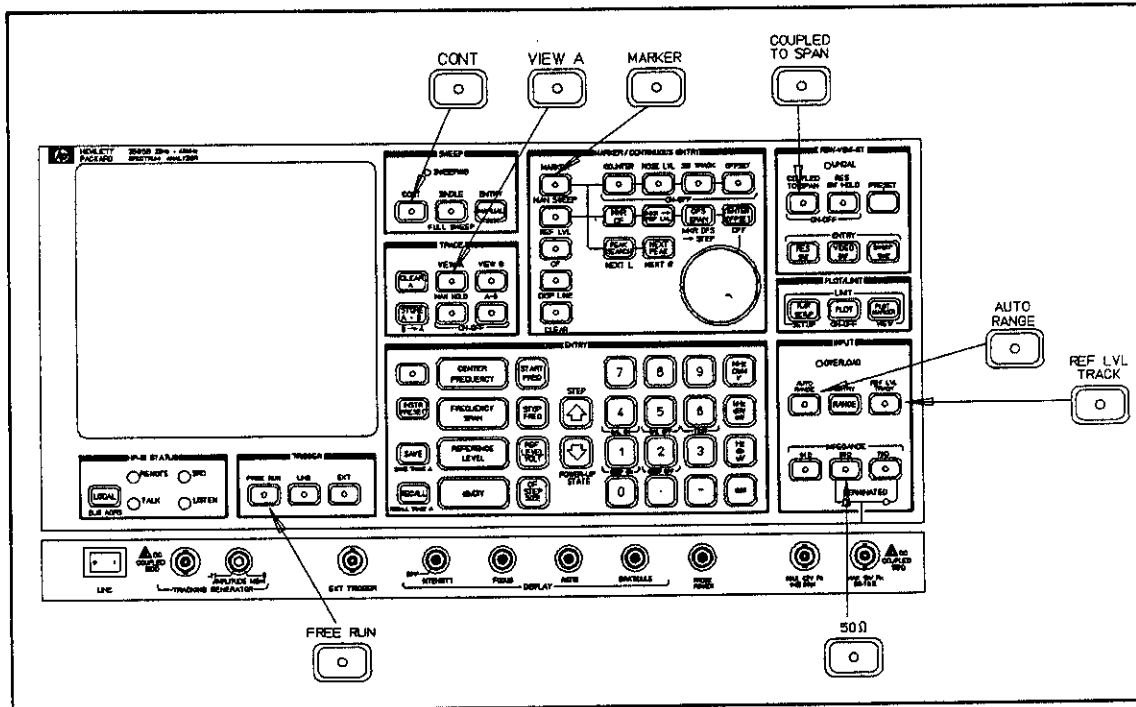

Figure 2-3. Front-Panel Functions Activated At Turn-On.
2. Verify that the activated front-panel functions on your instrument correspond to those shown in Figure 2-3.